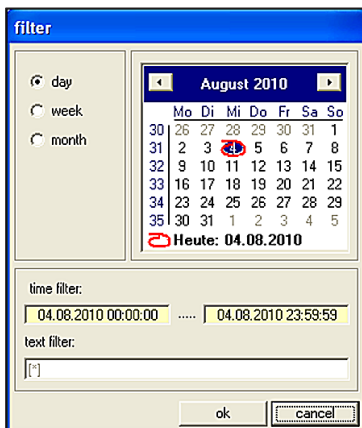

Fig. 50
- 1 Filter** Clicking on this button opens the **Filter** dialog box (→ Fig. 50). Here you can define a time filter limiting the event table display to one day, one week or one month. To set a filter, proceed as follows: